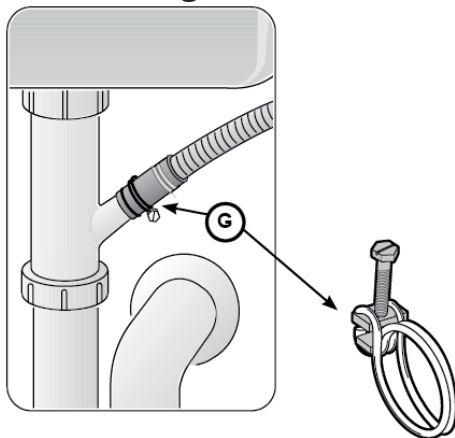

Figure 16
4. Use the clamp provided to attach the Rubber Drain Hose Adaptor to the house plumbing as shown in **Figure 16**.